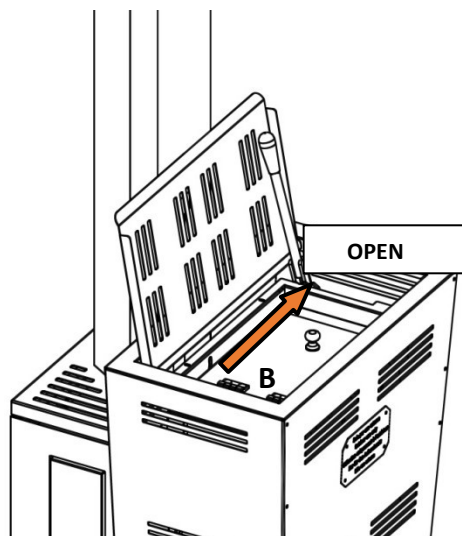

Fig. 10
- Move the lid **B** by turning the knob towards the open position (fig.10)